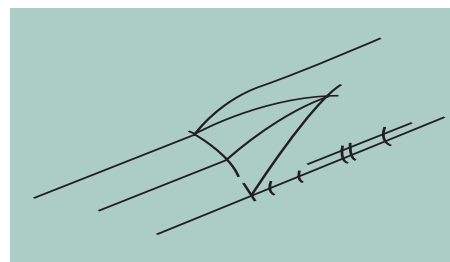

Figure 28 Weld joins
- E.** When you reach the end of the room, you will find that your arm touches the wall before the weld is complete. At this stage, pull the gun away from the groove and cut off the welding rod. Using a utility knife, trim off the excess welding rod and cut a tapering "V", approximately 25mm long, into the existing weld. Commence welding as before, from the opposite end of the room. Run out the weld into the pre-cut "V" and cut off the excess welding rod (Figure 28).